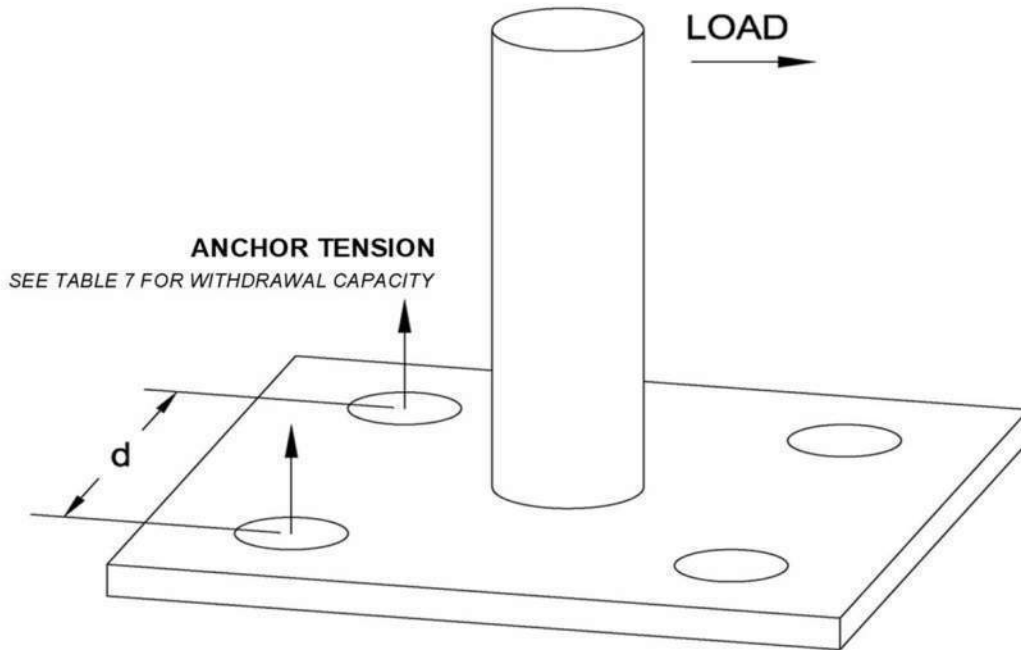

Figure 3 - Typical Toggler Bolt Application
1. TOGGLER Anchor System and peel rivet capacity is based on random anchors purchased from a distributor and have not been evaluated for installations other than that described in Table 7 and Figure 3. This **PER** verifies the **USG** Structural Panel Concrete Subfloor capacity only, and actual toggler anchor capacity without panel failure shall be verified by the engineer or designer of record through the SnapToggle anchor or peel rivet manufacturer.